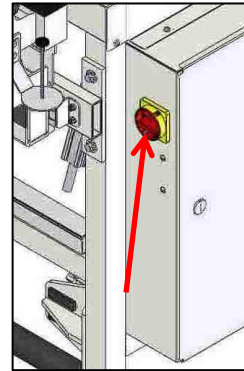

Fig.2
-Main Electrical Power ON/OFF switch (FIG.2)